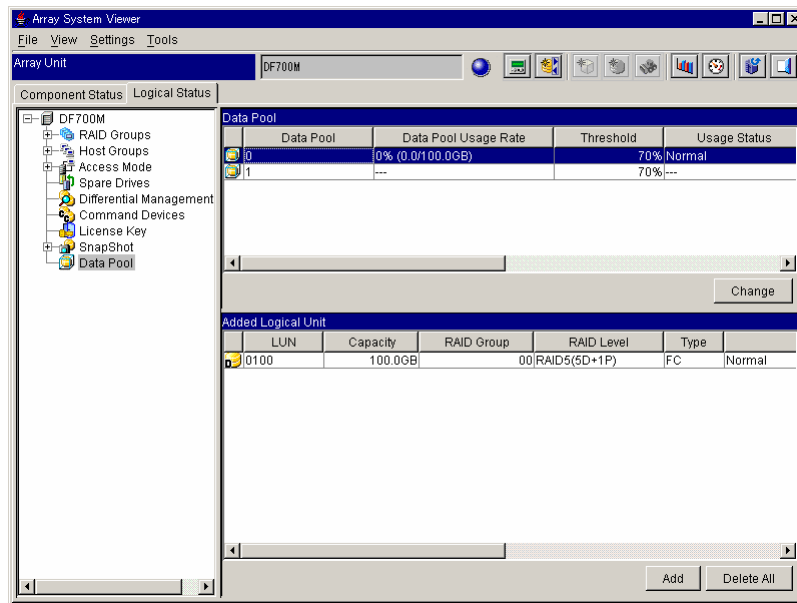

Figure 5.10 Added POOL Updates
- To change the threshold value of the Data Pool, click **Change** (see Figure 5.10).